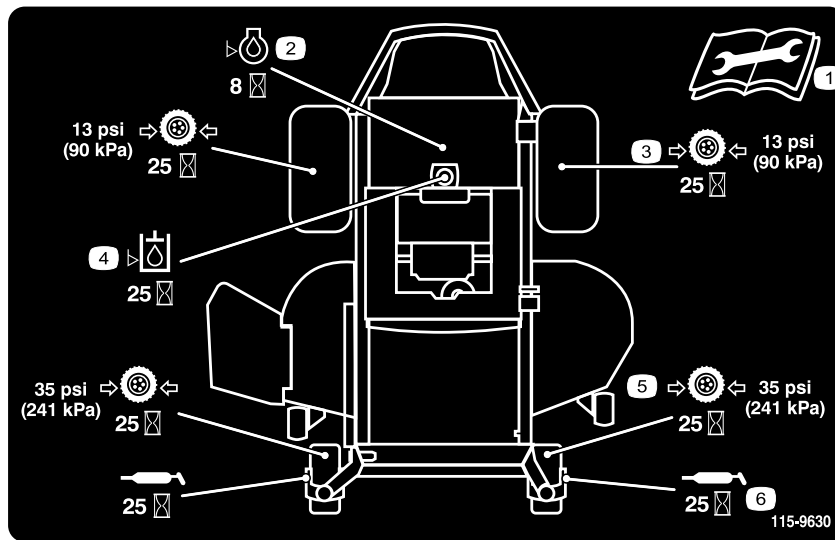

Figure 40
3. Clean the grease fittings (Figure 41 and Figure 40) with a rag. Make sure to scrape any paint off of the front of the fitting(s).
4. Connect a grease gun to each fitting (Figure 40 and Figure 41). Pump grease into the fittings until grease begins to ooze out of the bearings.